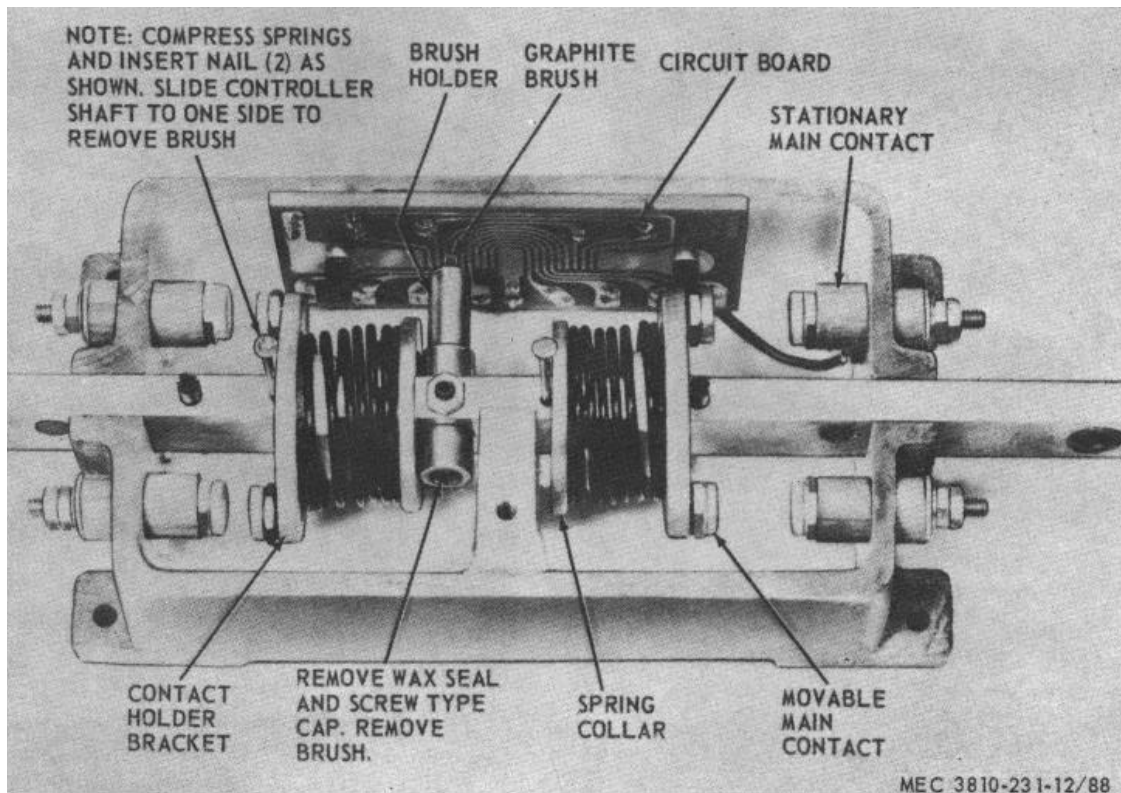
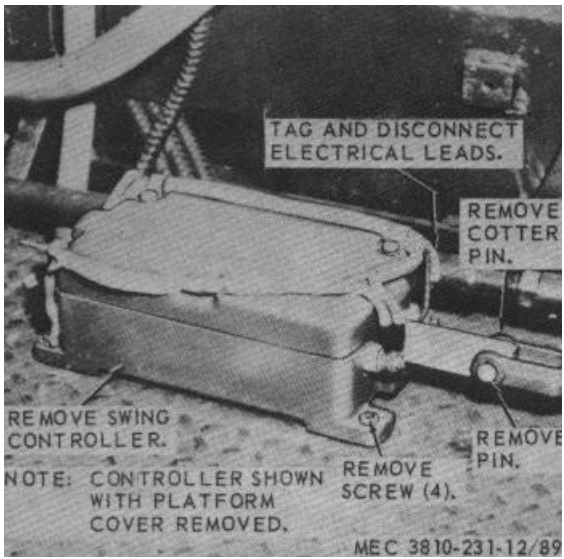

Figure 88. Swing controller assembly shown with cover removed.
Figure 89. Swing controller, removal and installation.
- (1) Remove the cover from the controller and visually inspect main contacts (fig. 88) and graphite brush.
- (2) The main contacts will show pitting on one face and build up on the mating face. Both the arc on interruption and the contact erosion are normal.
- (3) The contact material is approximately 1/8 inch thick and only when pitting is well into the backing is it necessary to replace the main contacts.
- (4) The graphite brush will leave a track of graphite on the circuit board. To clean, use a lint-free rag dampened with an approved cleaning solvent and remove the carbon deposits.
- (5) The graphite brush must be replaced when worn to 1/2 inch in length.
b. Removal. Remove the controller as instructed on figure 89.
- (1) Clean exterior with a cloth dampened with an approved cleaning solvent and dry thoroughly.
- (2) Inspect for cracks, breaks, and other damage, refer to par. a above. Repair or replace a defective controller.
- (1) Remove wax seal and screw type cap from rear of brush holder (fig. 88).
- (2) Install new brush and replace cap.
e. Installation. Install the controller as instructed on figure 89.